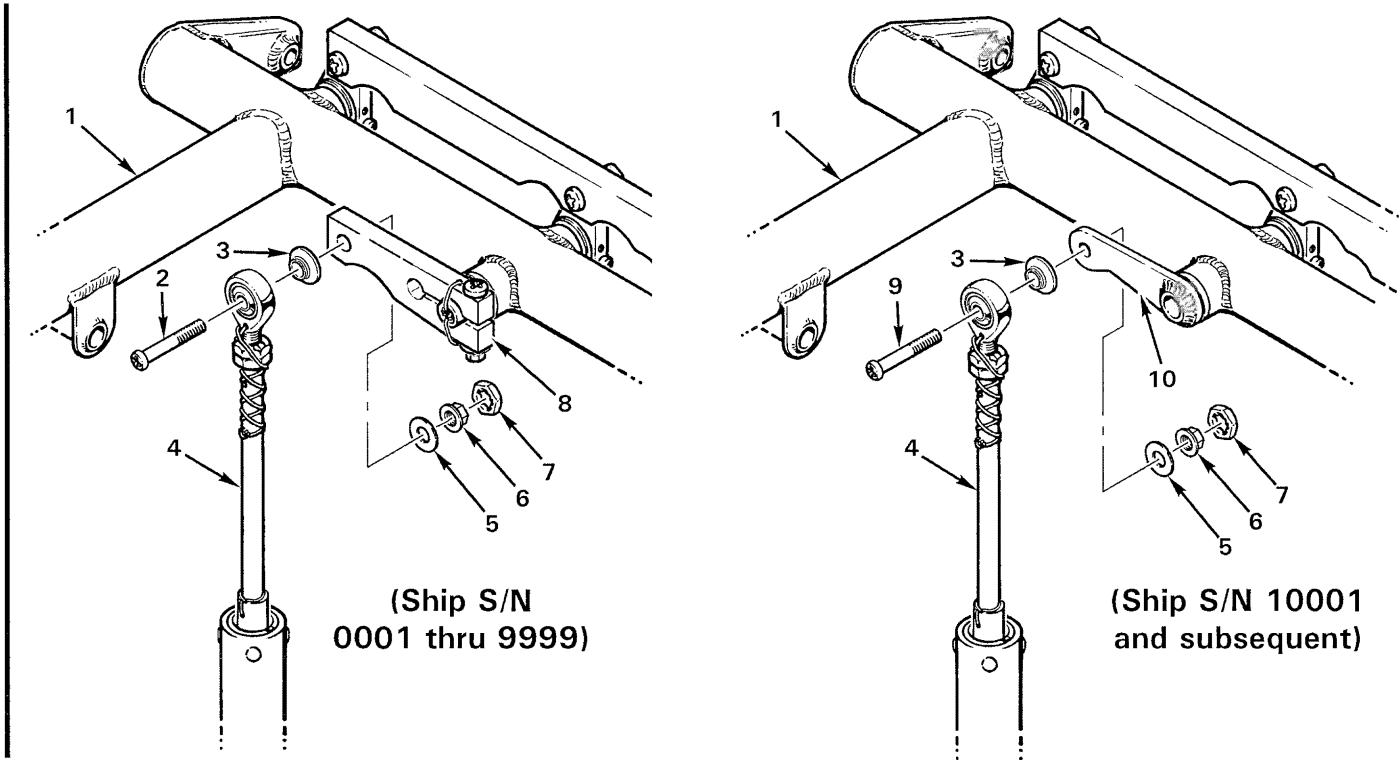

FIGURE 8-6 UPPER OVERTRAVEL SPRING INSTALLATION
- j) Install the A327-1 overtravel spring to the collective arm (see Figure 8-6).